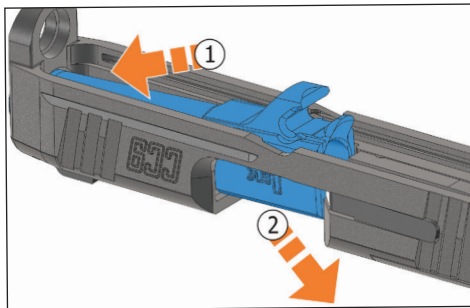

Figure 20 – Installing the barrel
1. Turn the slide upside down and insert the barrel into the slide with the barrel angular locking surface facing upwards (See Figure 20).